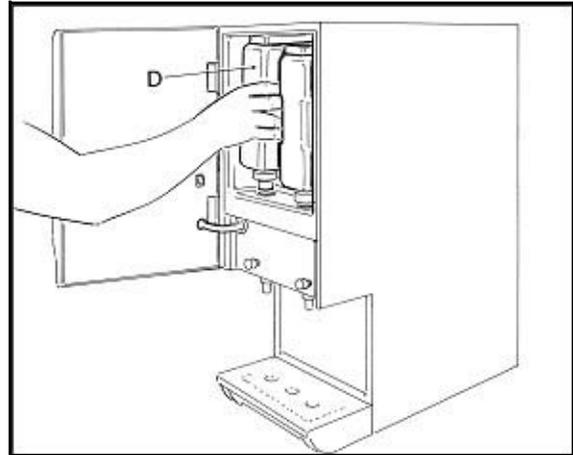

FIGURE 10
1. Fill a clean concentrate container (D) with 2 quarts of fresh sanitizing solution (ie: Stera-Sheen Green Label sanitizer) in accordance with the manufacturer's directions and load in dispenser, see FIGURE 10.